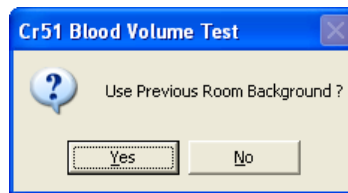
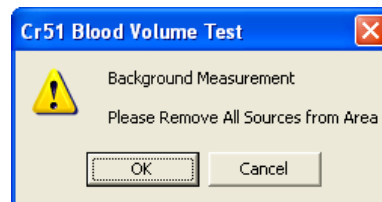

Figure 10-57
Figure 10-58
- First, the screen prompts you to measure background counts as shown in Figure 10-58.
Note: If the background has recently been counted, then the screen shown in Figure 10-57 will appear. To skip counting the background again and proceed to step 5, click the **Yes** button or press the *Y* key. To re-measure the background, click the **No** button or press the *N* key. The screen shown in Figure 10-58 will appear.